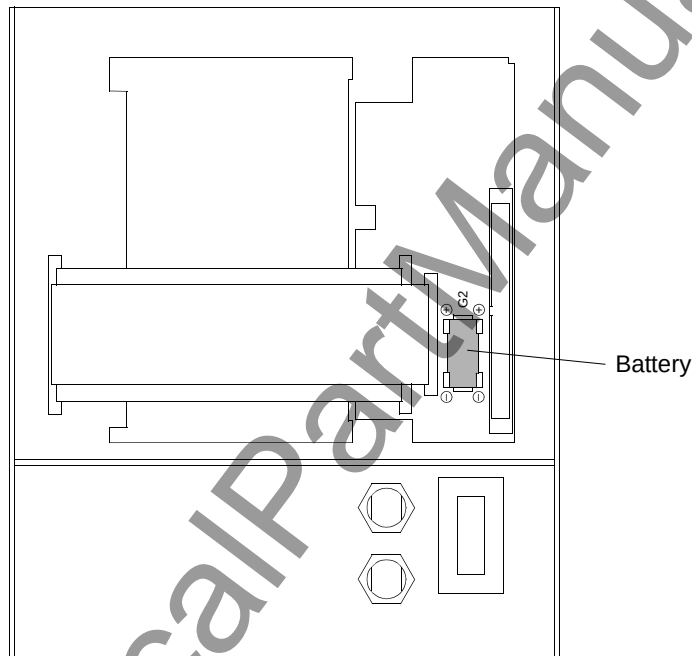

Figure 9-2 Rear side of front panel (housing size $\frac{1}{2}$) with separate operator control battery
- ☐ Plug the battery into the snap connection according to Figure 9-2.